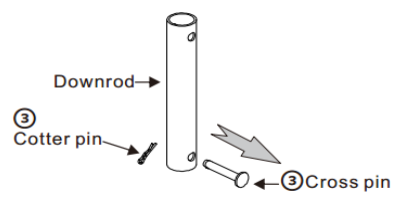

Fig. 3
3. Remove the cotter pin and cross pin from the downrod and keep them for step 8 (Fig. 3).